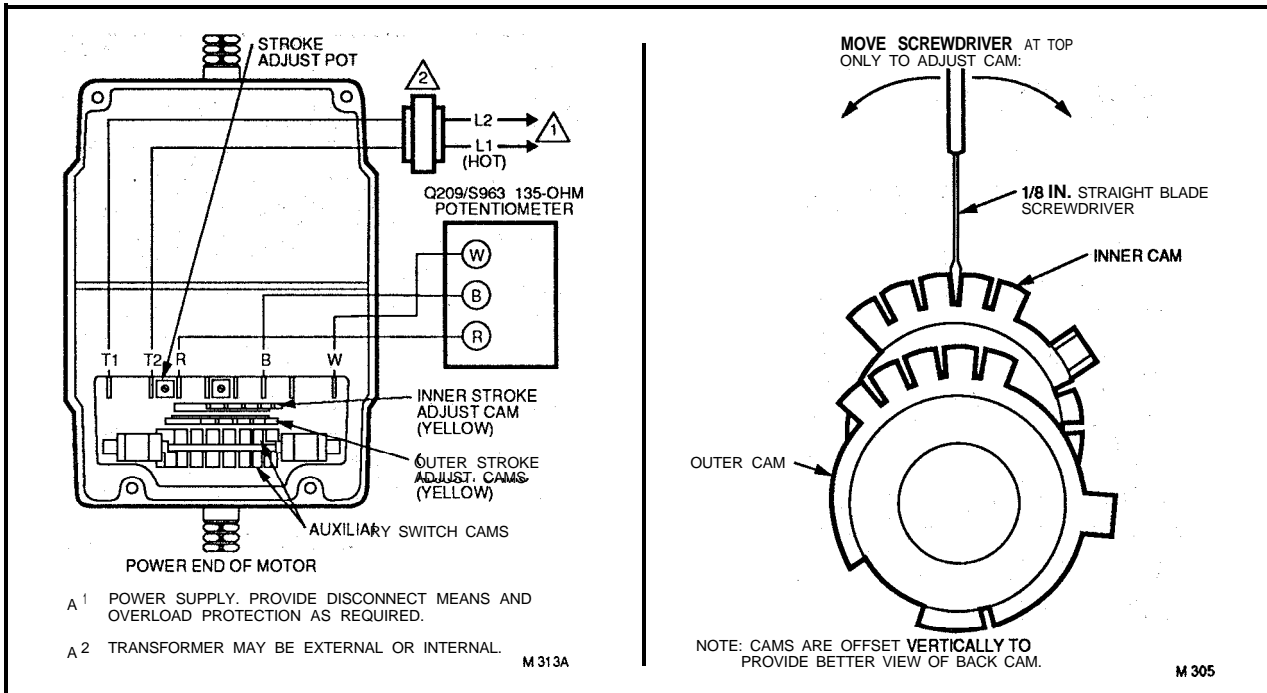

FIG. 8—STROKE ADJUSTMENT SETUP.
See Fig. 8.
**SETTING 160° STROKE (Fig. 8):**
### SETTING 90° STROKE (Fig. 8):